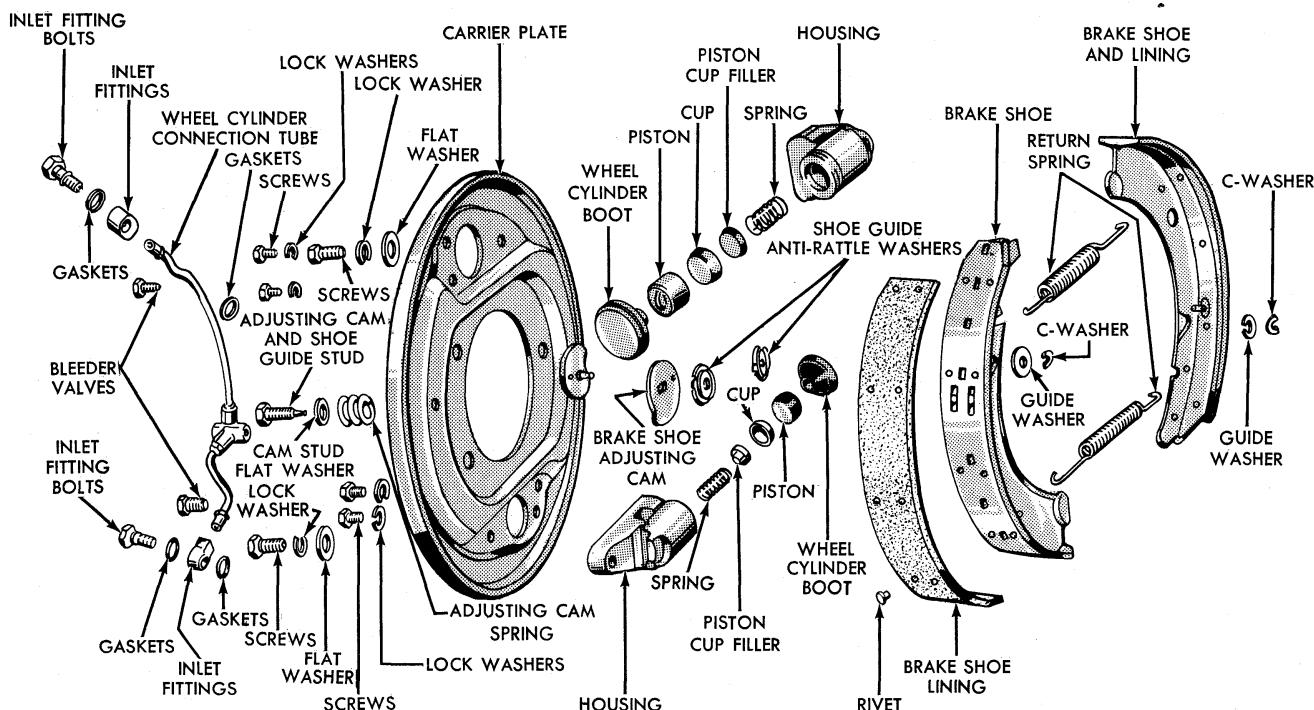

FIG. 13—Two-Cylinder Brake—Front
2. Remove both brake shoe return springs (Fig. 13) using brake spring pliers.
4. After installing both shoes, install the brake shoe return springs (Fig. 13). To install each spring, place